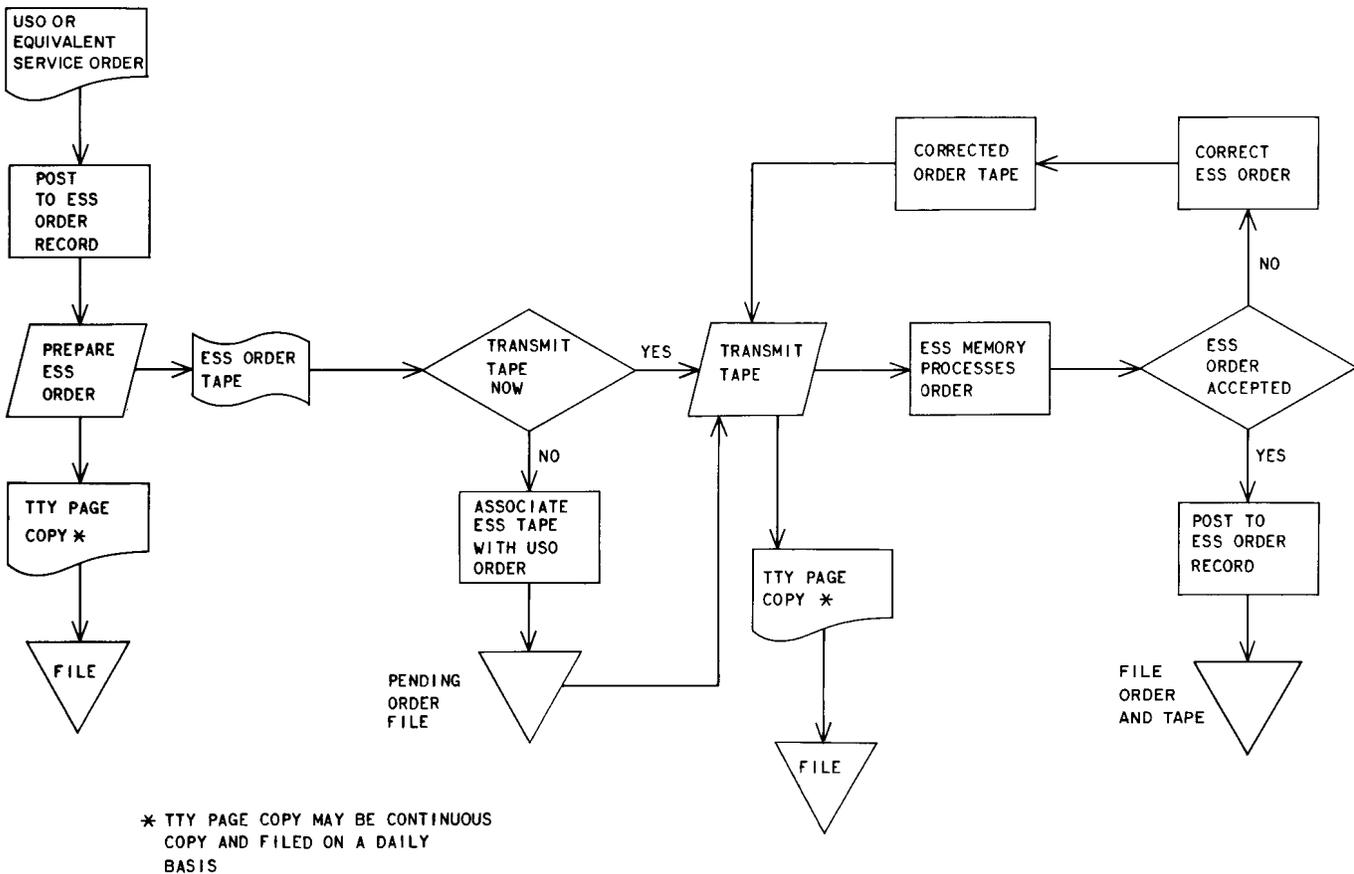

Fig. 10—Flowchart for Preparation and Processing of ESS Service Order and Tape
3.20 Reference should be made to Fig. 10 for a flowchart giving the preparation and processing of ESS order and tape.